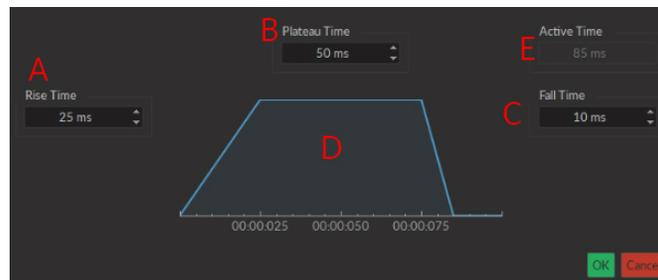

Figure 3.3: Light Source Smoothing Edge(s) Window
- iv. The **Smoothing** option is used to change the pulse slope in square pulse sequences. The **Edit Edges** button opens the **Smoothing Edge(s)** window (Fig. 3.3).